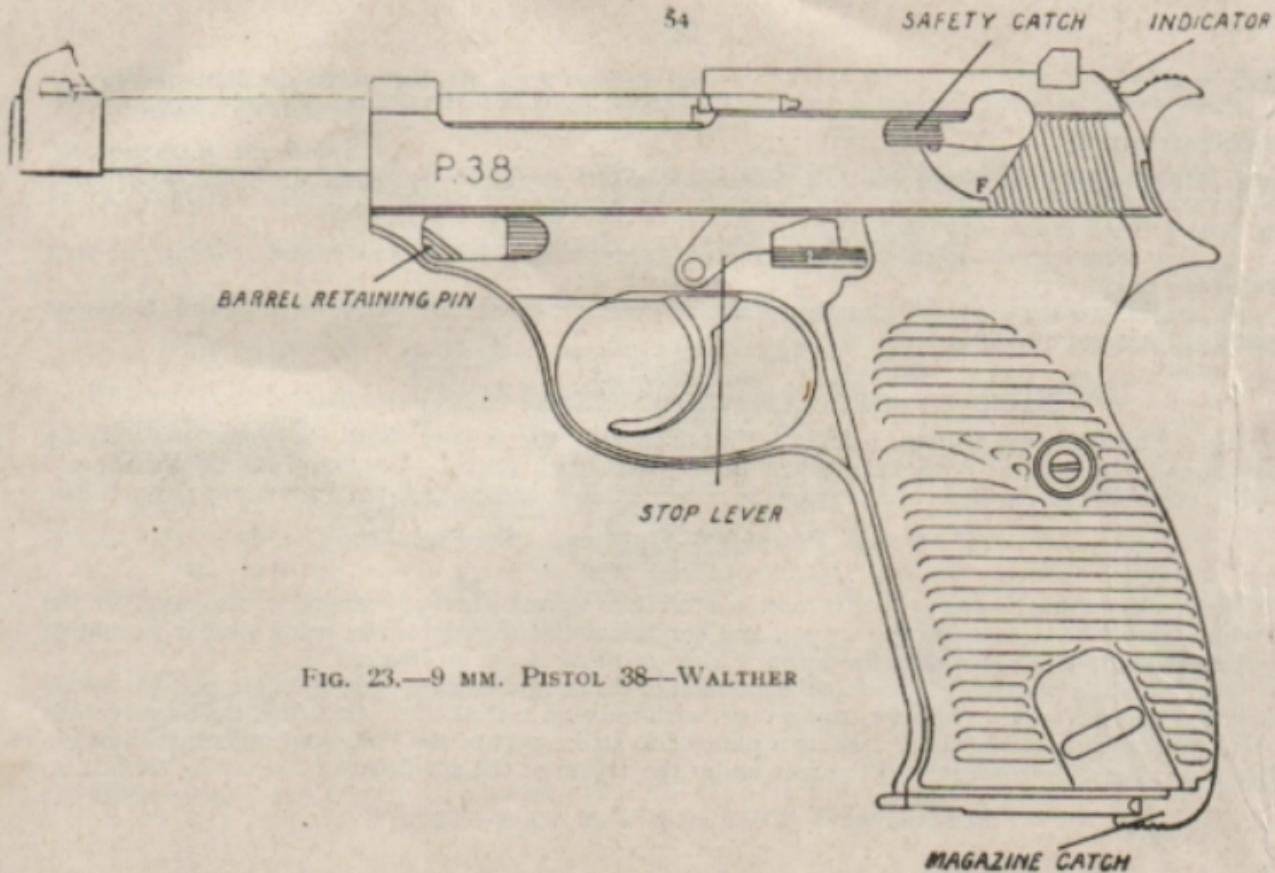

FIG. 23.—9 MM. PISTOL 38—WALTHER
37. 9 mm. Pistol 38—Walther. (See Fig. 23)